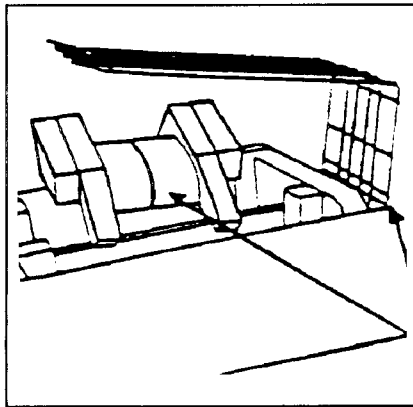

Figure 2-9. Remove Backstop & Forms Break
- e. Lift out the backstop and forms break, and remove the two attached foam pieces (Figure 2-9).